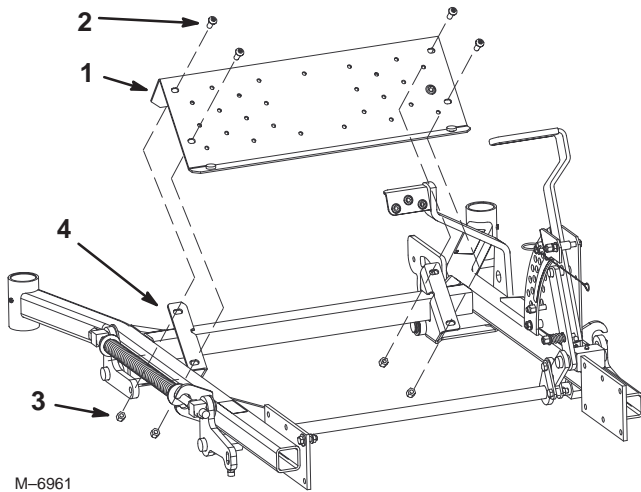

Figure 31
1. Raise the foot pan and then remove the footrest from the machine (Fig. 31).
3. Install the footrest onto the machine and lower the footpan (Fig. 31).